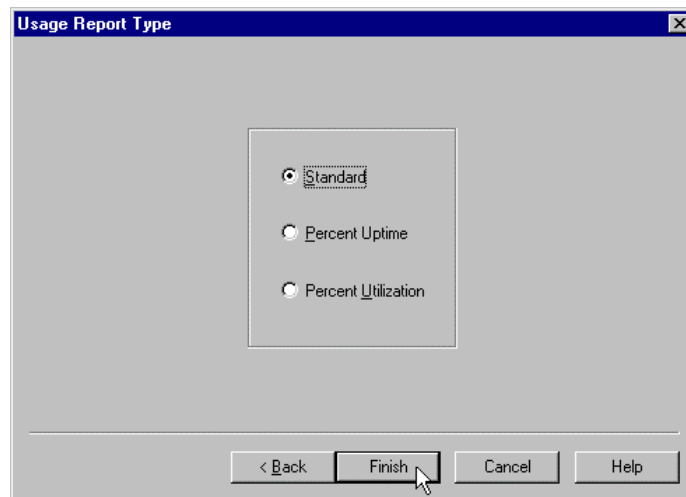

Figure 110 - Usage Report Type dialog box
6. Choose the desired USAGE REPORT to generate in the **USAGE REPORT TYPE** dialog box. Choose **FINISH** to create the report. The report will be created and displayed. See Figure 110.